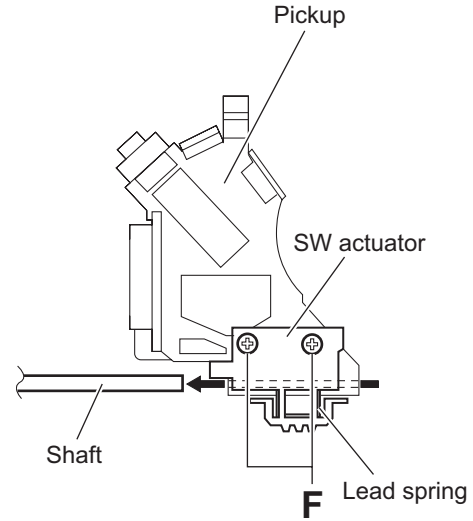

Fig.8
- From the bottom side of the pickup, remove the two screws **F** attaching the SW actuator and lead spring. (See Fig.8.)
- Pull the shaft out of the pickup. (See Fig.8.)
(See Fig.8.)